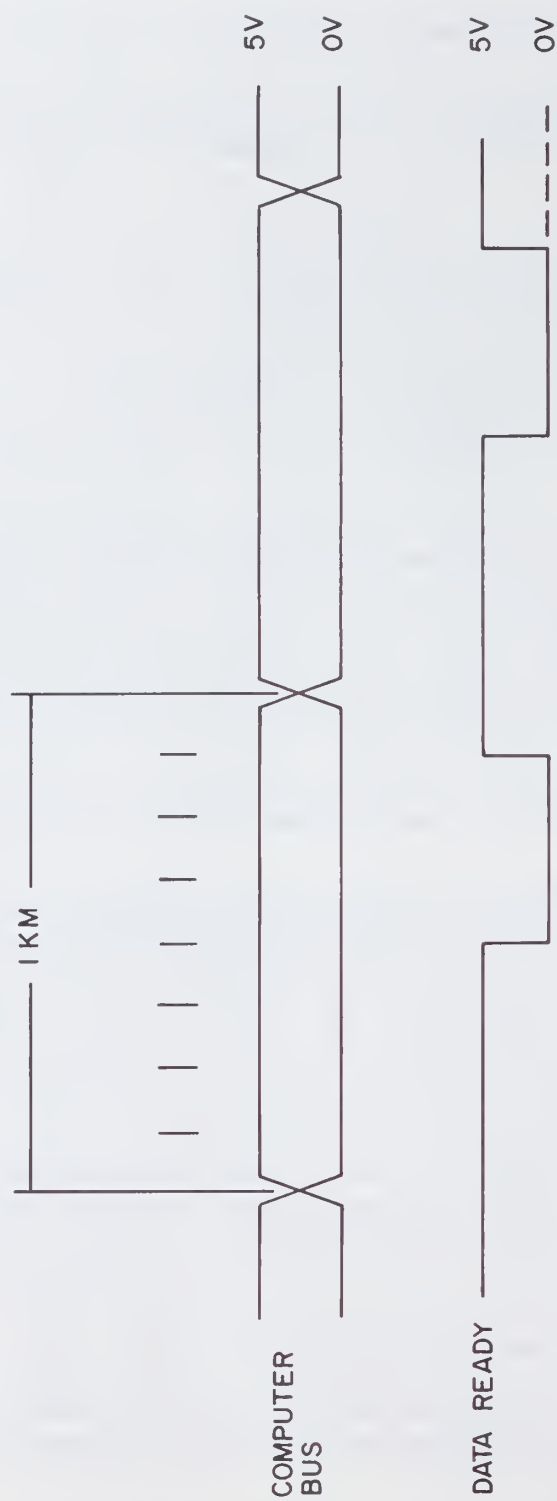

Figure 2-17. DVIP Data Timing Diagram
**2.4.6.1** The DATA READY signal is provided by the radar for clocking the DVIP data onto the data bus. Its timing is shown in figure 2-17. [Since clocking in the negative-going transition is preferred by the specification (bit center time).] Besides clocking parallel DVIP data in, it is used to clock the retriggerable monostable multivibrator U20A at the inverted input 1A. The time constant of U20A is determined by R40 and C32 (about 18  $\mu$ s). Since the DATA READY signal has a normal rate of 150 kHz (data is updated at 6.7  $\mu$ sec intervals), the output of U20A at 1Q will remain low during DVIP data time of 450 km (or 230) plus 18  $\mu$ sec. During this time, the auxiliary data byte counter U15 and 11-bit counter U13 are both disabled and reset to zero. The output of U17B, which decodes the 11th bit, is HIGH; and only the DATA READY strobe can clock the shift registers through U18C.